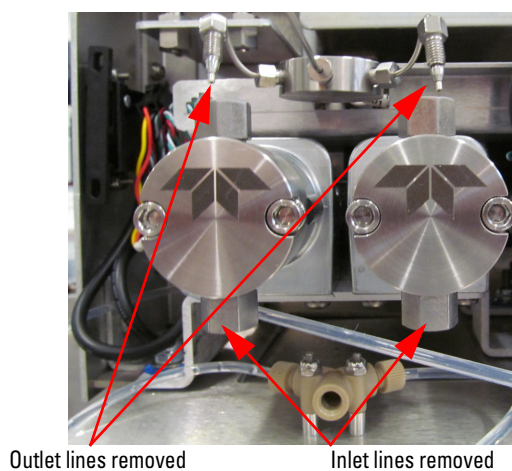

Figure 5-22 Location of fittings
8. With the pump assembly pulled out, remove the inlet fittings connected to the bottom of the pump head. Using a $\frac{1}{4}$ " wrench, remove the stainless steel outlet lines on the top of the pump head (Figure 5-22).